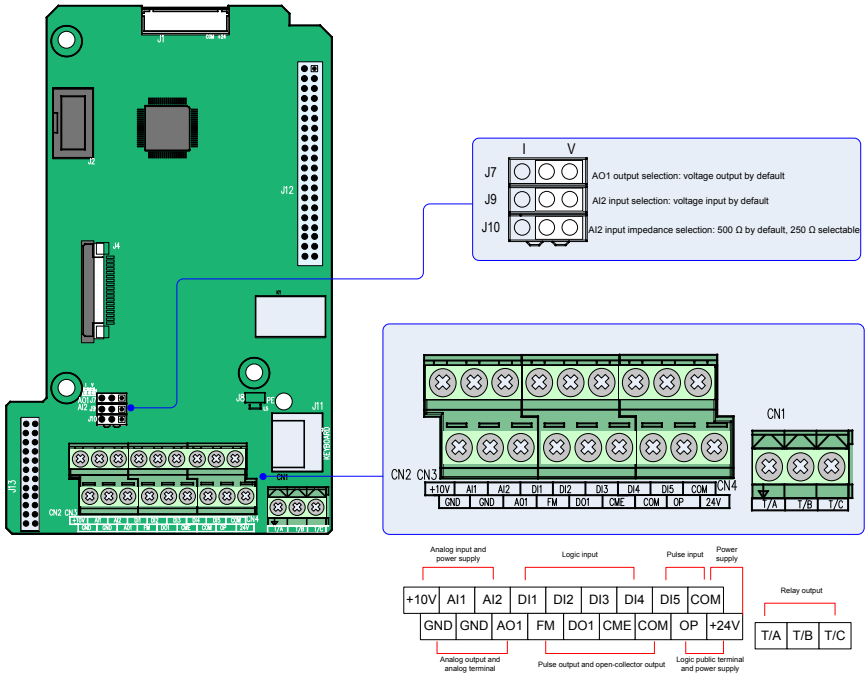

Figure 3-57 Control circuit terminal arrangement
- <3> For positions of jumpers J7, J9 and J10, refer to Figure 3-57.